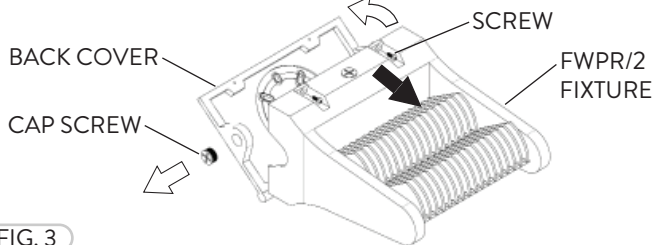
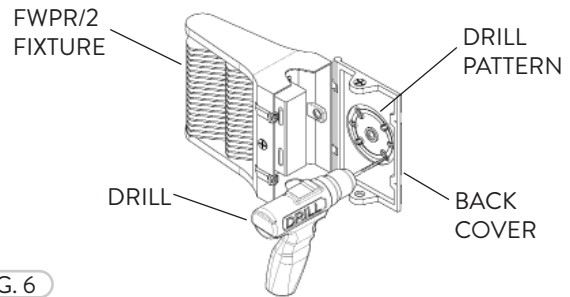

FIG. 3
FIG. 6
- 1 The Optional Photocell Control allows on/off switching the fixtures based on the amount of daylight present. Prior to installing, loosen the Screws (2) that hold the FWPR/2 Back Cover and then open. Remove the Cap Screw at the side/top (Location based on photocell used) of the Back Cover for the Photocell Control (Fig. 3).
- 1 Prior to Junction Box installation, loosen the Screws (2) that hold the FWPR/2 Back Cover giving access to the fixture wiring (Refer to Fig. 3). The Back Cover of the FWPR has a raised drill pattern on the inside that can be drilled through for the Junction Box. Align the desired Junction Box (not included) and drill holes to align with the Junction Box of your choosing (Fig. 6).